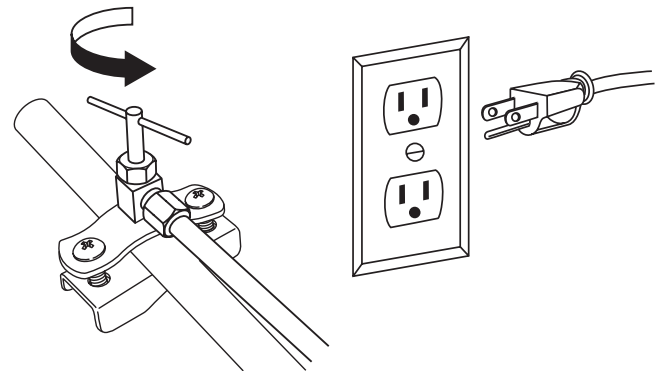

Figure 23
4. Insert the electrical plug for the combined appliance into the electrical outlet (**Figure 23**).